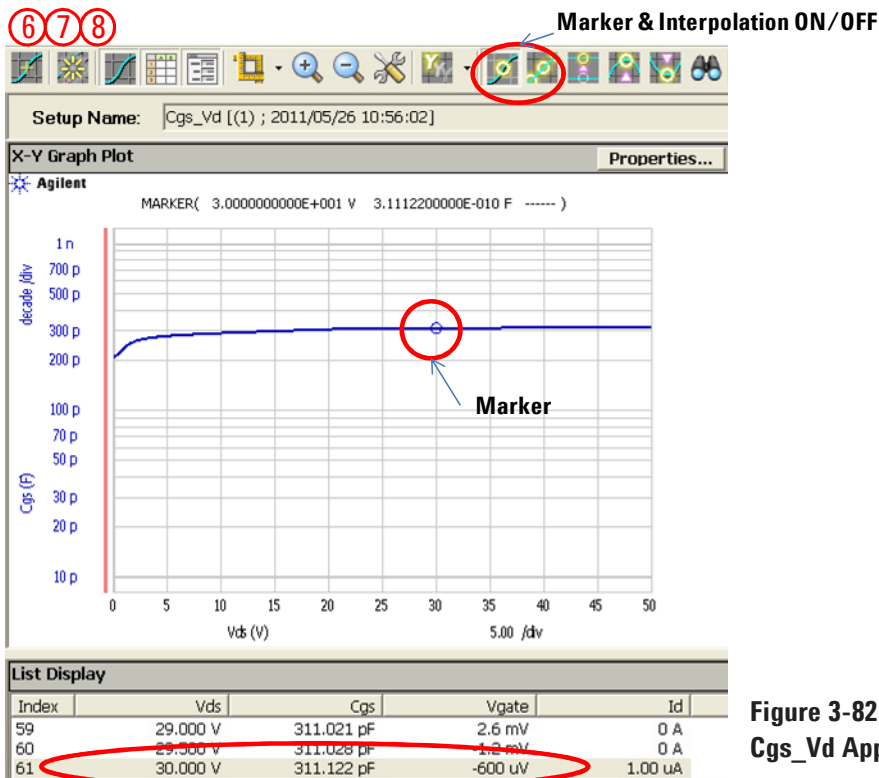

Figure 3-82. Cgs-Vds output from Cgs\_Vd Application Test.
Step 8. You can see the Cgs-Vds graph as shown in figure 3-82.
Figure 3-82 plots Cgs in Y axis versus drain voltage Vds in X axis.
There is no Cgs specification in 2SK3745LS datasheet, and the Ciss output capacitance has to be calculated by adding Cgs and Cgd. Cgs can be read as 311 pF from the marker value or List Display of figure 3-82.
Step 22. You can see the same graph shown in figure 3-82.
Note: Step 21 and 22 are the same as the step 7 and 8 of figure 3-82.